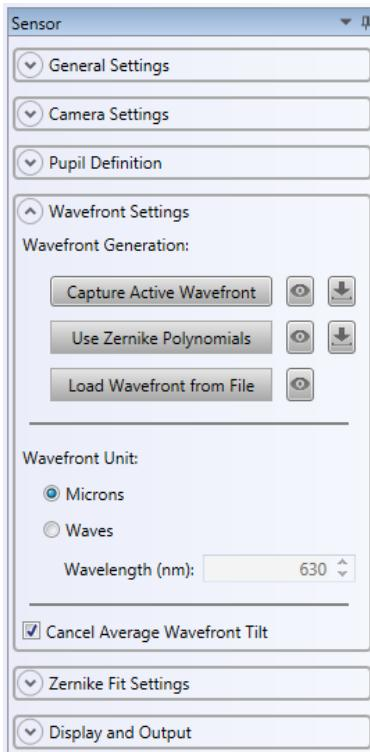
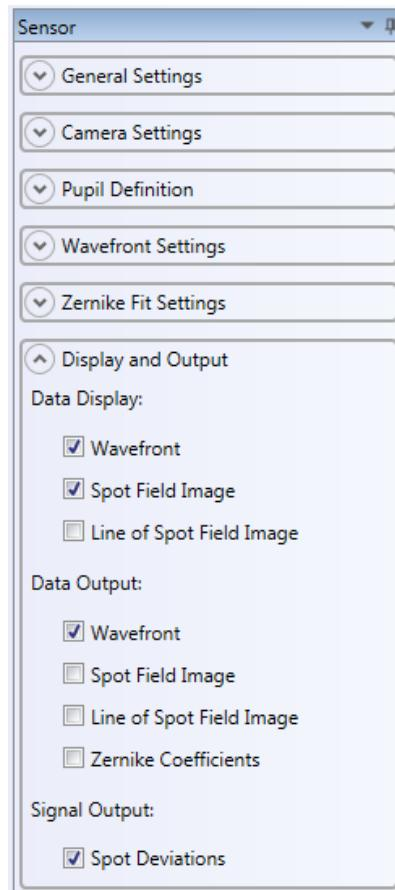

Figure 111 WFS Settings Window – Wavefront Settings
Figure 115 WFS Settings Window – Display and Output Options
- **User Zernike Polynomials** – Click this button will open a separate window that allows one to define a Zernike-based reference wavefront by varying the amount of the various Zernike terms. Figure 111 is an example of the window. The variable Zernike terms are listed at the right side of the screen.
Wavefront Units – The user may select to display wavefront related measurements / statistics in units of **microns** or **waves** by selecting either similarly labeled radio buttons in Figure 111. Near the radio button labeled **waves**, the **wavelength** value in *nm* needs to be set to properly convert the inherent measurements (microns) to waves.
- **Zernike Generated Wavefront** – A Zernike-based reference wavefront may be generated using the **Use Zernike Polynomials** button under the **Wavefront Settings** section of the Sensor element tab, see Figure 111.
- **Captured Wavefront** – A measured wavefront may be used as a reference wavefront. To capture a wavefront use the **Capture Active Wavefront** button under the **Wavefront Settings** section of the Sensor element tab, see Figure 111.
- **Saved Wavefront** – Any measured or generated (Zernike-based) wavefront may be saved and loaded to use as a reference wavefront. To load a saved wavefront, use the **Load Wavefront from File** button under the **Wavefront Settings** section of the Sensor element tab, see Figure 111.
the Sensor element tab (see Figure 115). It also allows one to monitor the measured Zernike coefficients. The coefficients are calculated using the least squares fit method and are displayed in units of microns or waves. The units are set in the **Wavefront Settings** section in the Sensor element tab, see Figure 111.